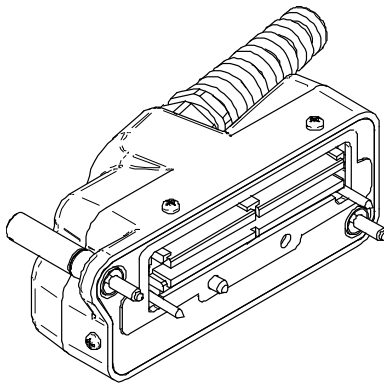

Figure M-3 The Olympus ECA probe connector
- The first type is the Olympus ECA probe connector (see Figure M-3 on page 182).